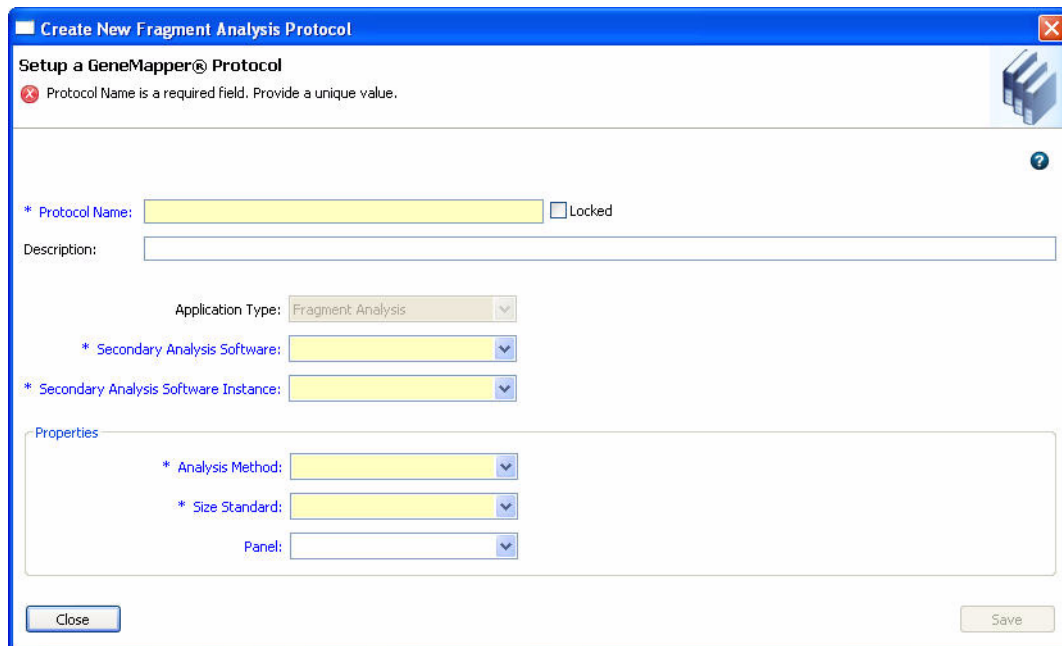

Figure 32 Create New Fragment Analysis Protocol
3. In the Create New Fragment Analysis Protocol dialog box (Figure 32 on page 194), specify settings (see Table 20 on page 194).